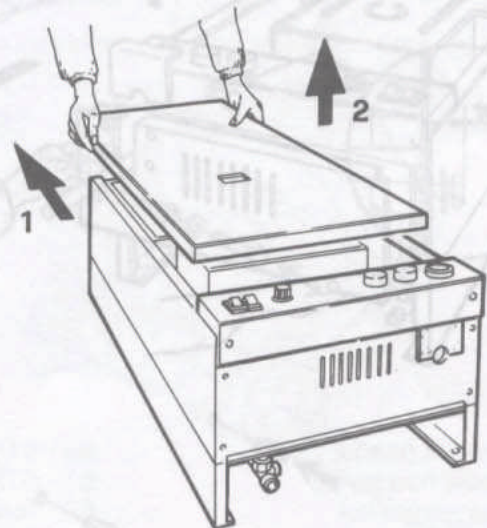

Fig. 20
– Carefully slide the front panel a few millimetres up towards the top of the appliance until it is free from its slot, and then lift off (Fig. 20).